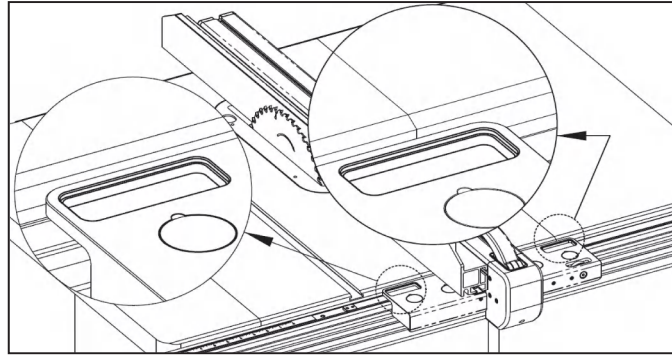

Fig. 9-10
- (3) As shown in Fig. 9-10, wipe the viewer installation area on the slider with anhydrous ethanol.
- (4) Apply UV adhesive to the viewer installation area and affix the new viewer.